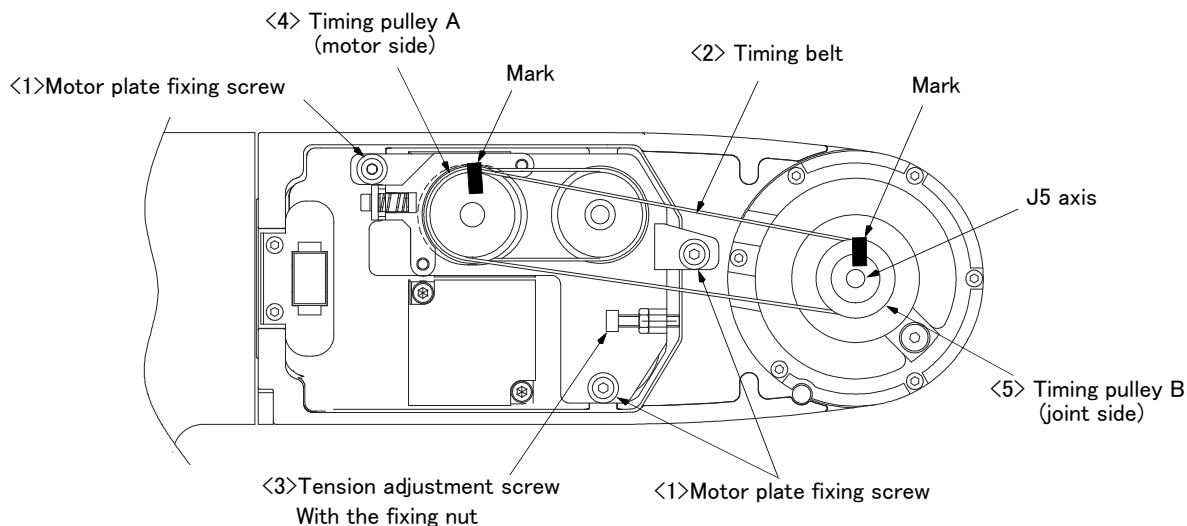

Fig.5-14 : Inspection and replacement of J5 axis timing belt (RV-2FR series)
The reference figure at inspection and replacement of the timing belt is shown in Fig. 5-14.
- 3) Make marks on the timing belt <2> and timing pulleys <4> and <5> with a felt-tip pen as shown in Fig. 5-14 so that the engagement of the timing belt <2> and timing pulleys <4> and <5> does not deviate.